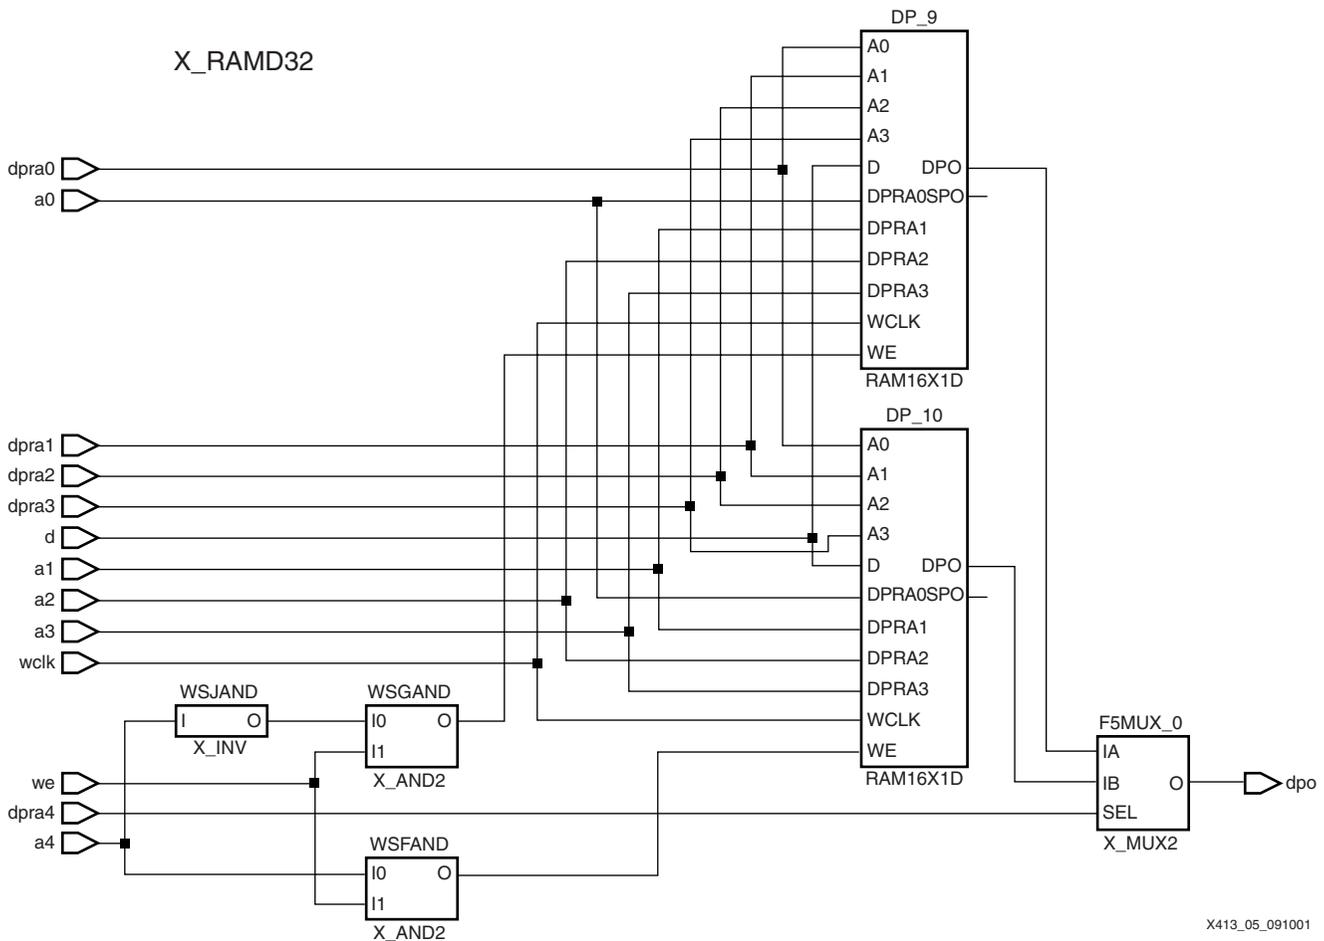

Figure 7: 32-bit RAM Composed of Smaller Primitives
3. Designs using distributed SelectRAM resources have difficulty matching to back-end designs, because the implementation tools break up the SelectRAM instances into smaller components, which makes it difficult for formality to compare the RTL and Implemented versions of SelectRAM resources. The recommendation is either to not use SelectRAM resources, or to use the small RAM16x1 SelectRAM primitive in the RTL design, as shown in Figure 7.